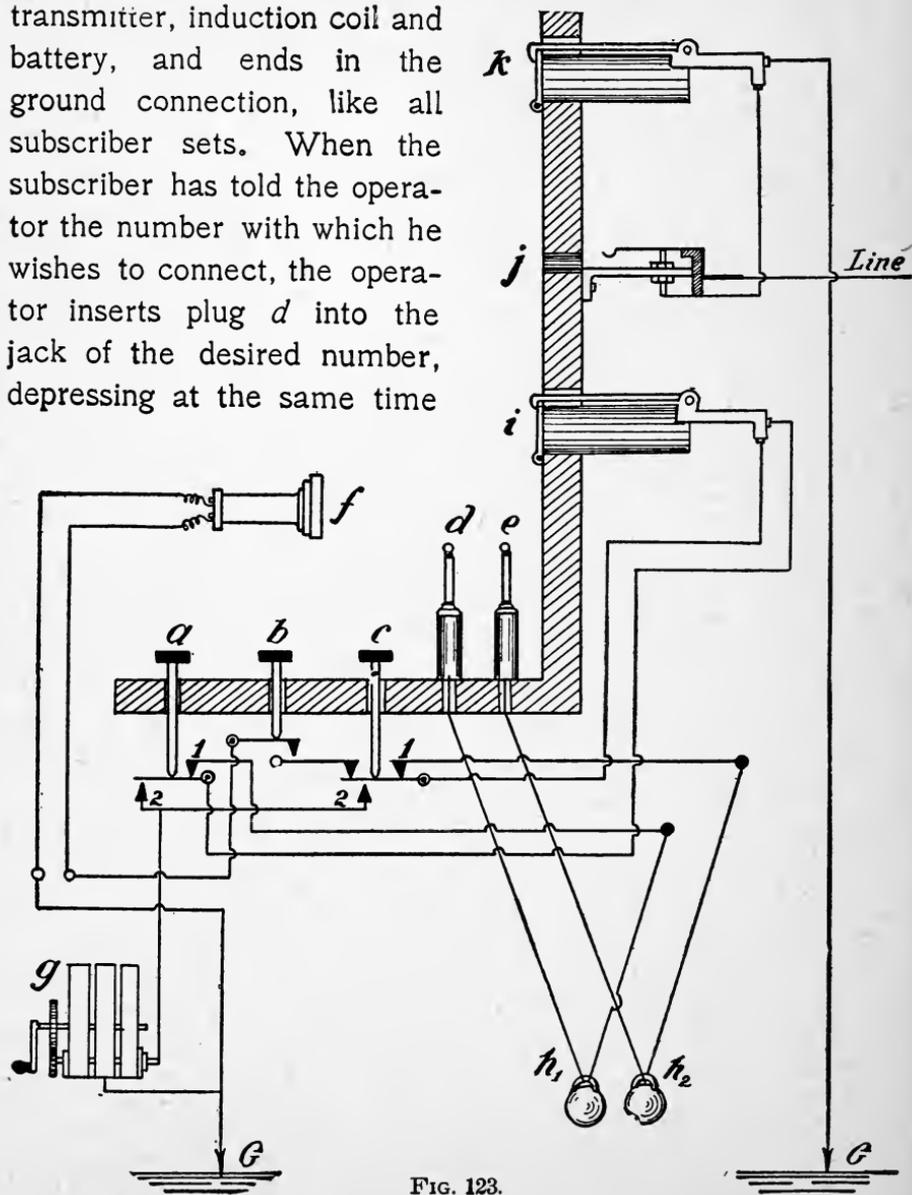

FIG. 123.
**220.** Fig. 123 shows a diagram of a *grounded* or *common-return* switchboard. Keys *a*, *b*, *c*, are the *operating keys*, *a* and *c*, being the *ringing keys*, and *b* the *listening key*. The plugs *e* and *d*, connect by their flexible conducting cords with the ringing keys *c* and *a* respectively. Each of the keys has two contacts *1* and *2* which enable it to be in connection with either of two circuits. The switchboard shows the magneto-generator *g*, the operator's telephone set *f*, the drop *k*, jack *j*, and clear-out-drop *i*. When the subscriber whose line connects to jack *j*, desires a connection, the current of his magneto-generator passes through line, through jack *j*, and coil of the drop *k*, to ground, thus releasing the shutter of the drop and exposing the number of the subscriber's line. The operator inserts plug *e* into the same numbered jack *j*, depressing at the same time the listening key *b*, thus connecting his own telephone set *f*, in circuit with line. By these operations, the operator is enabled to converse with the subscriber, the circuit being complete through the line wire, the jack *j*, the plug *e*, and